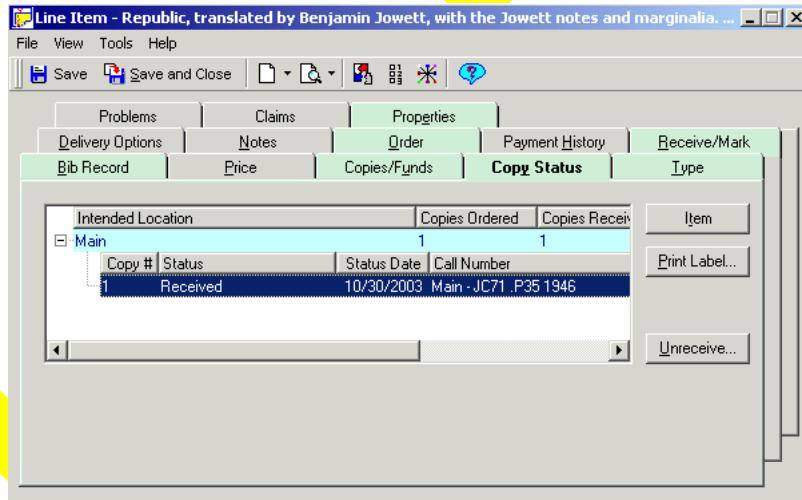

Figure 10-5. Line Item dialog box - Copy Status tab
3. Click the copy (second level of the hierarchy) that is associated with the item record that you want to create/ maintain (Figure 10-5) and then click the **Item** button.